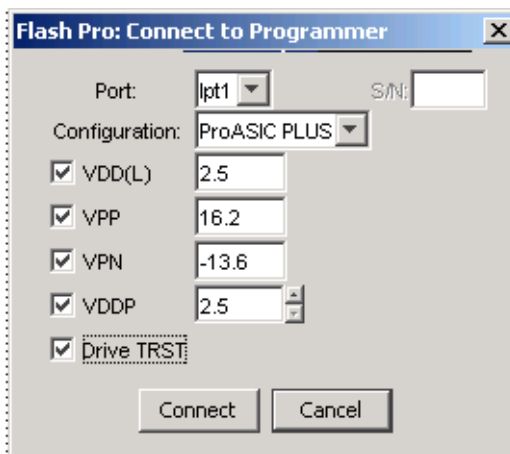

Figure 5-26. Connect to Programmer Dialog Box for ProASIC PLUS Devices
2. In the Port list, select the port the FlashPro programmer is connected to as shown in Figure 5-26.